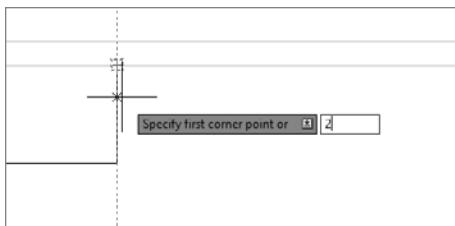

FIGURE 5.45 Locating the first corner of the rectangle
5. Move your cursor down, and enter 2. \downarrow (51. \downarrow), as shown in Figure 5.45. This starts the rectangle 2" (51 mm) from the back wall, along the side of the counter.